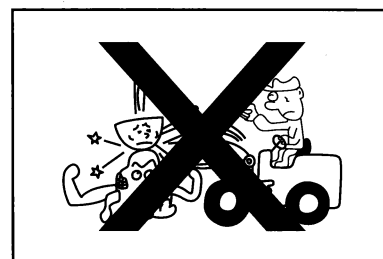

Figure1-75
- The loader is a special purpose machine. Don't use the head or any part of the working equipment to scratch, move or push something. (Figure 1-75)